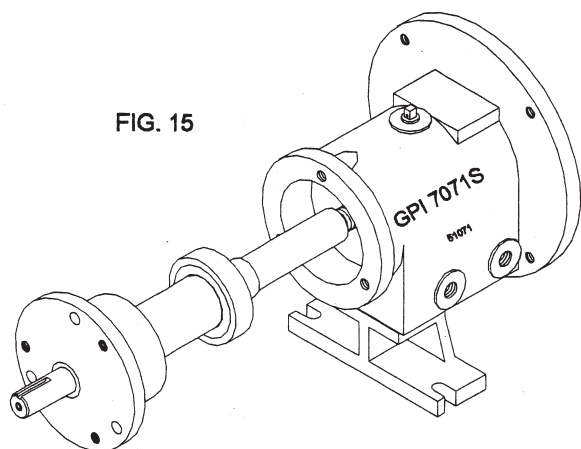

FIG. 15
8. Coat outside of bearing housing (2) and all internal surfaces of bearing frame (13) with oil.
9. Install shaft assembly into bearing frame. (Fig. 15)